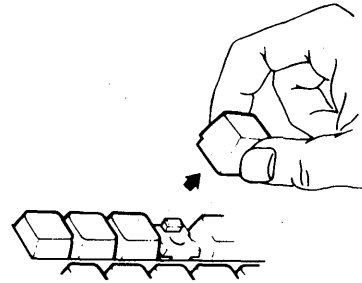

Fig. 7—Control Key Removal
- (c) To remove control keys (Fig. 7):
- (1) Grasp key using thumb and index finger.
- (2) Exert upward force until key releases.